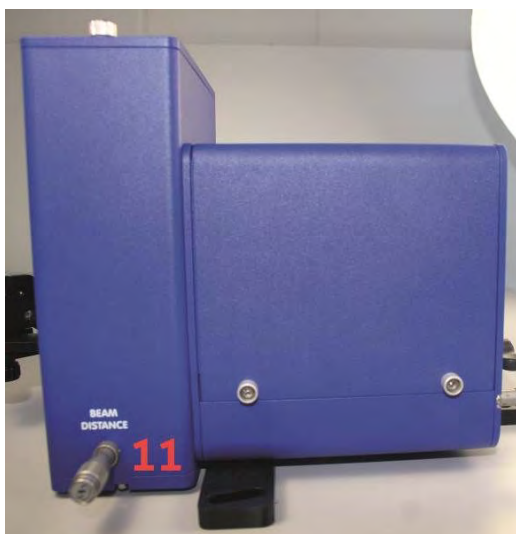

Figure 3.3.: *pulseCheck* Optical Head
9. Check if the "FOCUS" alignment knob at the optical head (see Figure 3.3, item 8) is at center position as given in the test report, and correct if necessary.
10. Check if the "DELAY" screw at the optical head (see Figure 3.3, item 12) is at the "zero" position as given in the test report (this is usually not the micrometer position "0.00"), and correct if necessary.